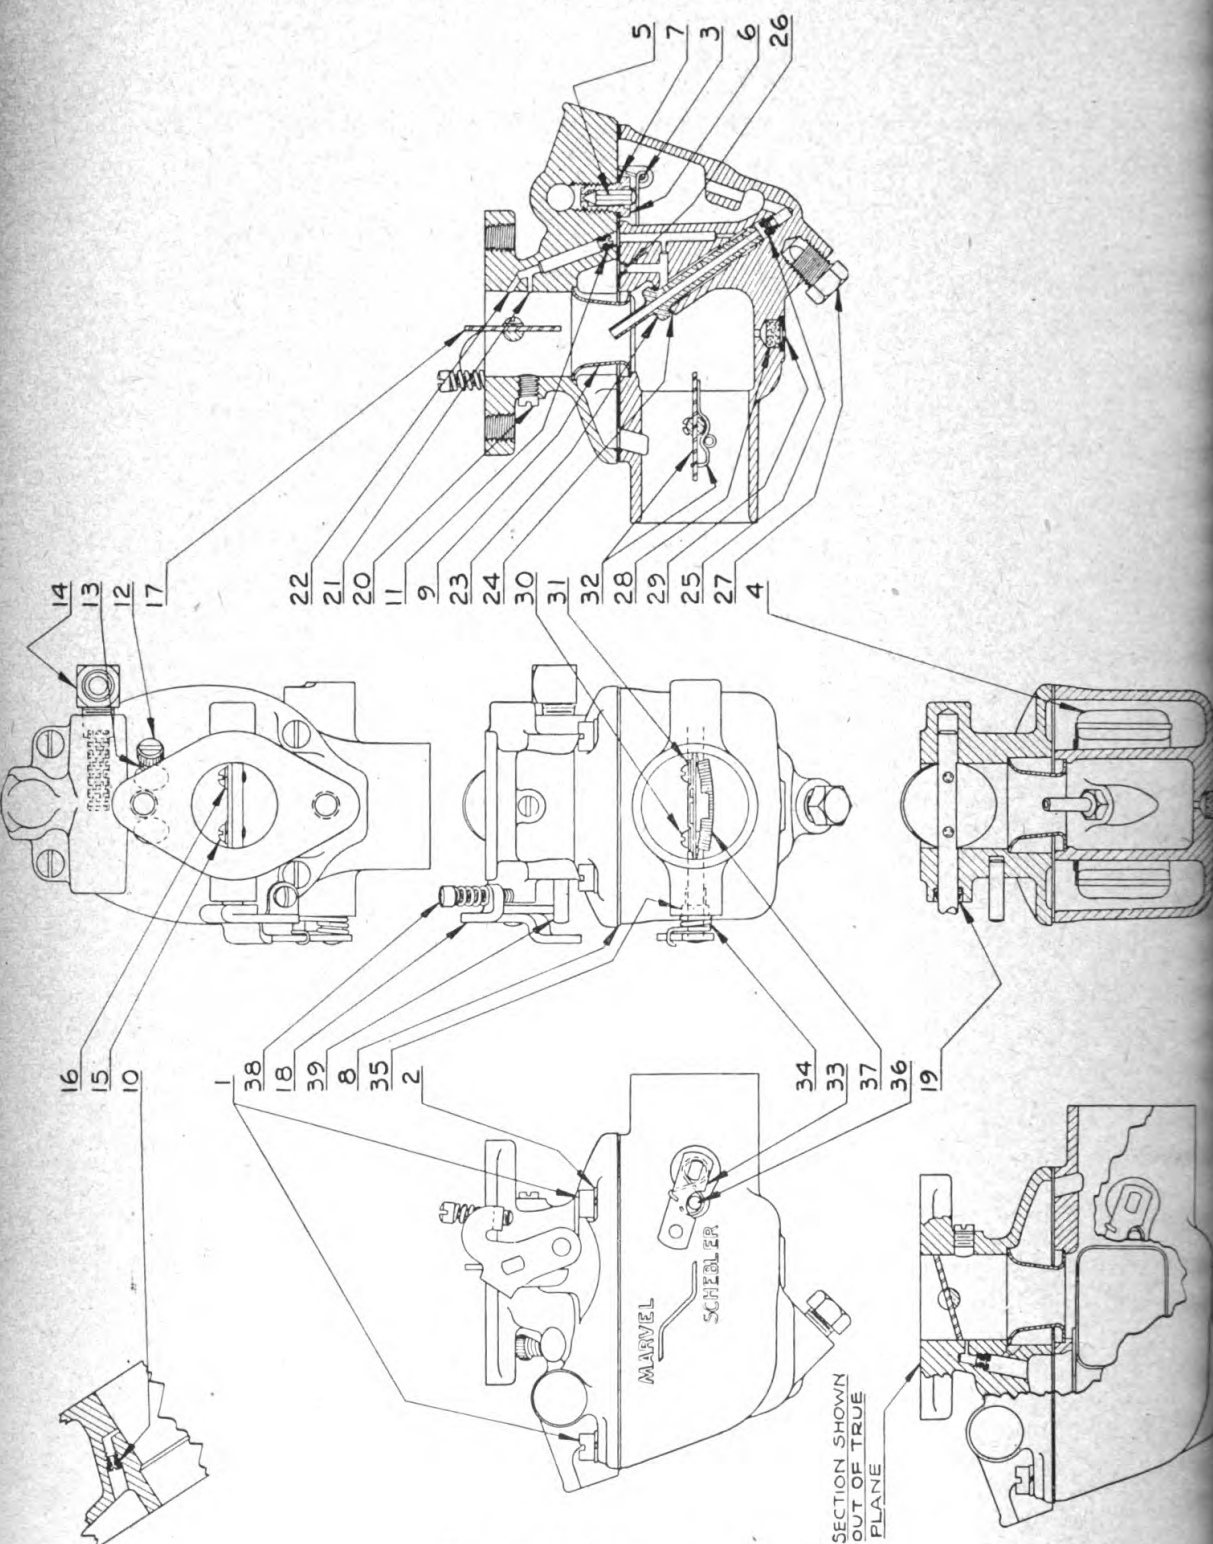

Figure 14. Carburetor assembly.
c. Replacement of Parts. (1) Check all bearings for wear. Replace all rough or worn bearings.
(2) Check the thrust sleeve for wear where it contacts the weight noses and for roughness inside the sleeve.
(3) Check the yoke for wear where it contacts the thrust bearing.
(4) Check the weights for wear where the weight noses contact the thrust sleeve.
(5) Check the weight pins for wear.
(6) Use a new oil seal when reassembling.
(7) If there are worn parts in the assembly consisting of the spider shaft, weight spider, diaphragm, diaphragm bearing, and drive gear, it will be necessary to replace the entire assembly. Lubricate all bearings with oil (OE) before reassembling.
49. DISASSEMBLING CARBURETOR (fig. 14).
a. Disassembly of Throttle Body and Bowl Cover. (1) Remove float lever shaft [3] and float and lever assembly [4].
e. Assembly of Main Body and Bowl to Throttle Body and Bowl Cover. (1) With throttle body and bowl cover in the inverted position, lower main body and bowl over floats. Be careful that venturi [9] guides the bowl into position. With the two main castings held firmly together, turn carburetor to upright position and install carburetor to throttle body screws [4] and lockwashers [43].
(2) Assemble gas inlet elbow and screen assembly [14] with open end of connection facing upward as shown in figure 14.
(3) Install carburetor on tractor, using new flange gasket, and make final idle adjusting needle adjustment as directed under adjustment instructions.